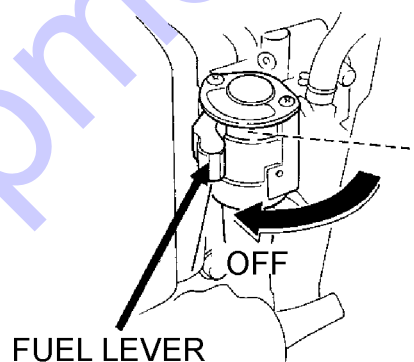

Figure 29. Fuel Valve Lever (OFF Position)
3. Close the **fuel shut-off valve** (Figure 29) by moving the fuel valve lever to the **OFF** position.